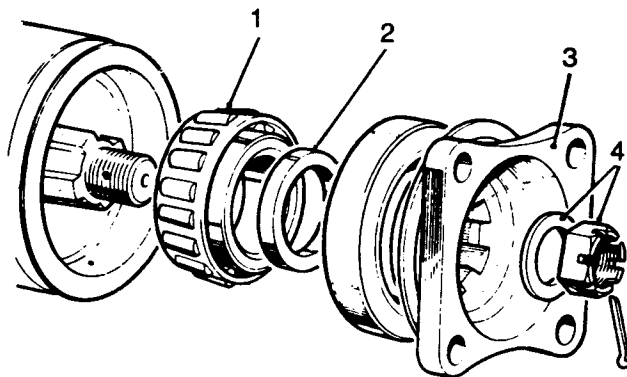

Fig J2.53
- (6) Refer to Fig J2.53. Fit the flange end roller bearing (1).
- (7) Fit the distance washer (2).